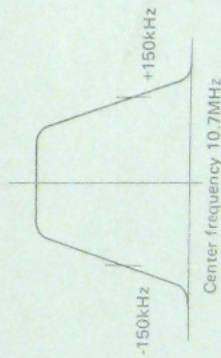

Fig. 3
- i) Adjust the FM IFT cores (T4, T5, T6) for maximum gain and symmetrical pattern (Fig. 3).